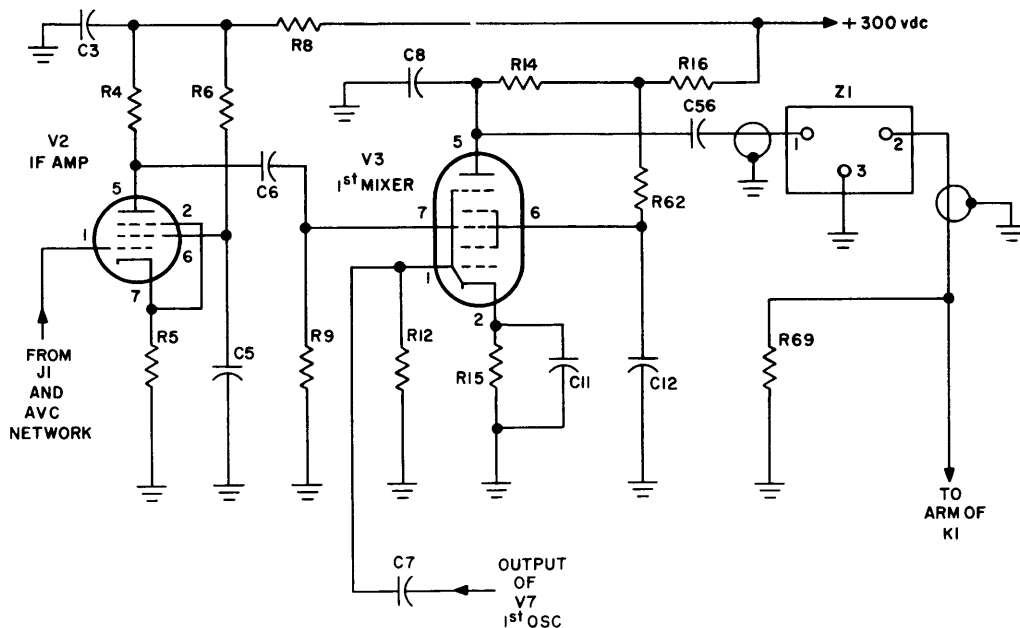

Figure 4-5. IF Amplifier and 1st Mixer, Simplified Schematic Diagram
b. IF AMPLIFIER AND 1st MIXER (Figure 4-5). - The incoming signal from the AVC controlled IF Amplifier V2 is mixed with the 1st Oscillator V7 output to place it in proper position relative to the bandpass filter Z1. The bandpass filter Z1 has a bandwidth of 19.1 kc to 3.4 kc, the output of which is fed to the arm of the BFO relay K1 for application to the 2nd Mixer V4.